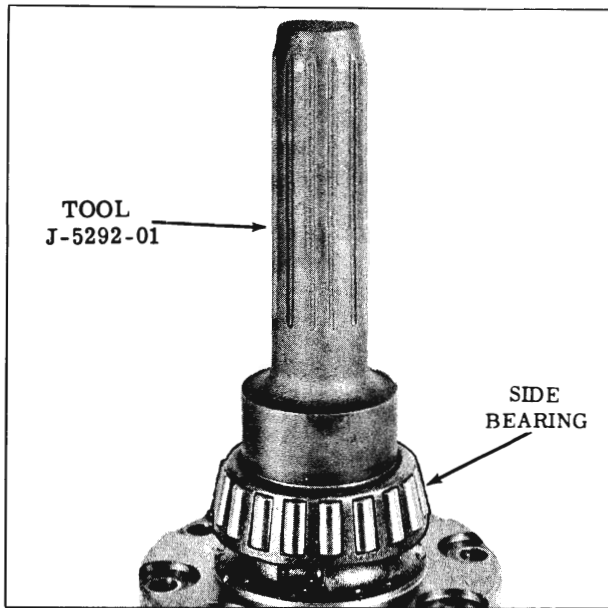

Fig. 6-43 Installing Side Bearings
2. If side bearings were removed, lubricate the bearings and install on case and case cover hubs as shown in Fig. 6-43.